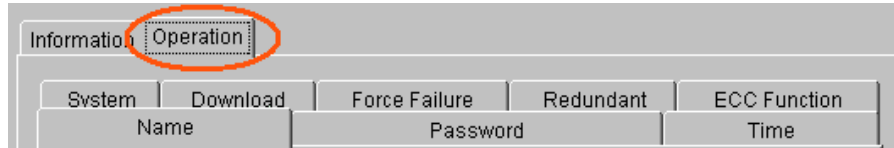

Figure 6-13: Operation Tabs
- ◆ **Operation** (choose from each range or enter a value): After selecting the “Operation” tab the selection tabs shown in *Figure 6-13* will appear: